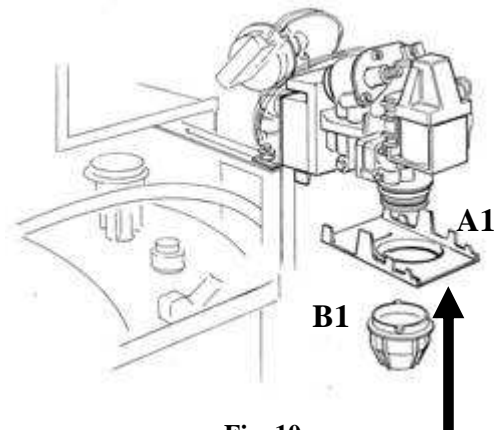

Fig. 10
- Connect the unit plug to the electricity mains and open the command board plastic door Z (fig.10); if the control board box is open, each switch T controls the correspondent post-mix valve to carry out the brix operation (this is possible only if both water and syrup are present). This operation is possible only on one valve at the time.
- Press the bowl related switch T (fig.10) in order to dispense product from the correspondent mixing valve: